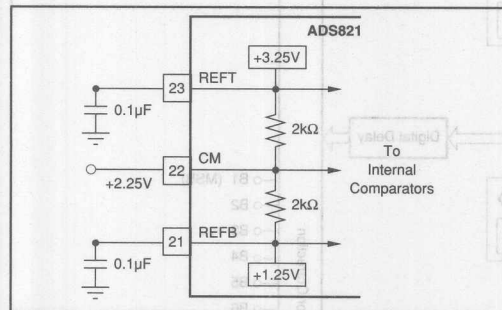

FIGURE 3. Internal Reference Structure.
The analog input of the ADS821 can be configured in various ways and driven with different circuits, depending on the nature of the signal and the level of performance desired. The ADS821 has an internal reference that sets the full scale input range of the A/D. The differential input range has each input centered around the common-mode of +2.25V, with each of the two inputs having a full scale range of +1.25V to +3.25V. Since each input is 2V peak-to-peak and 180° out of phase with the other, a 4V differential input signal to the quantizer results. As shown in Figure 3, the positive full scale reference (REFT) and the negative full scale reference (REFB) are brought out for external bypassing. In addition, the common-mode voltage (CM) may be used as a reference to provide the appropriate offset for the driving circuitry. However, care must be taken not to appreciably load this reference node. For more information regarding external references, single-ended inputs, and ADS821 drive circuits, refer to the applications section.